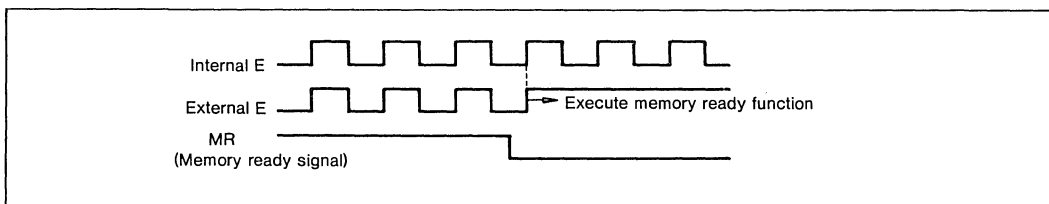

Figure III-5. Internal and External E Clocks
**Answer:** Internal E clock operates at normal frequency (figure III-5). Since the timer count and the SCI transfer rate are set by the internal E clock, they are not also affected by the memory ready function.